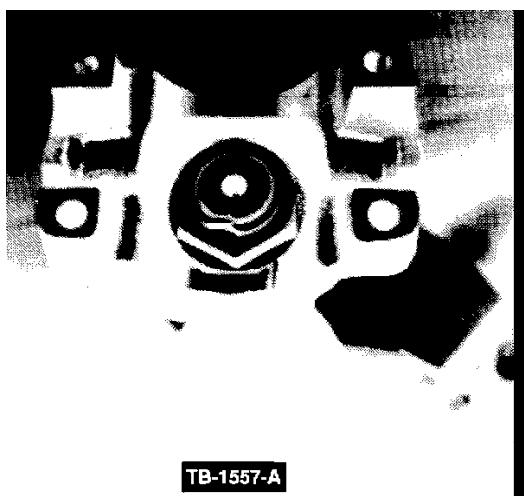

Figure 3
4. Strike the punch with a hammer. Make sure that the shoulder of the retaining nut is contacting the bottom of the groove, Figure 3.